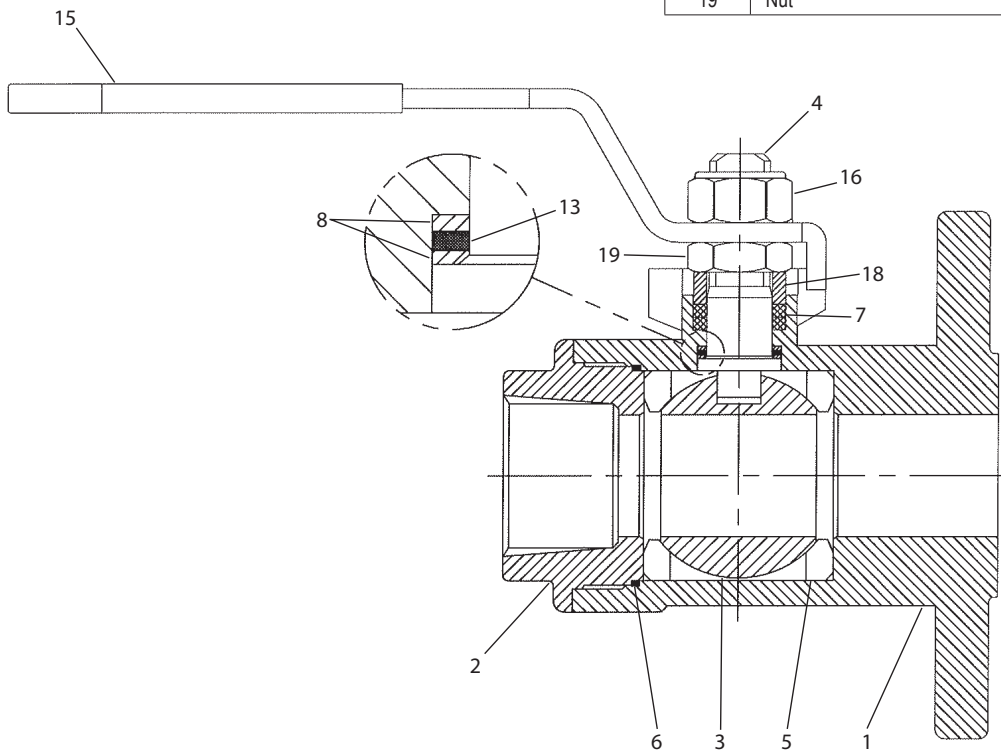

Figure 5
- c. From **Figure 5**, the ballooned part number, part name and quantity required.